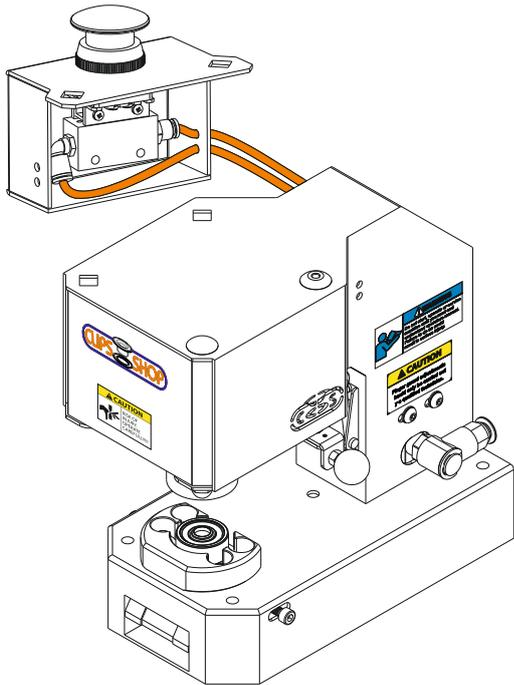

fig.5
- CS-TIDY-41-□M: ①
- CS-TIDY-41-□F: ①
- CS-TIDY-41-□B: ③
- CS-TIDY-41-FB: ③
3) Poke the short hose ① through the upper hole ③ on the start button box and install it ① to the fitting ⑤ by pushing in tightly. Poke the long hose ② through the lower hole ④ on the start button box and install it ② to the other fitting ⑥ by pushing in tightly as shown in (fig. 5). Locate the Start button box as shown in (fig. 5).